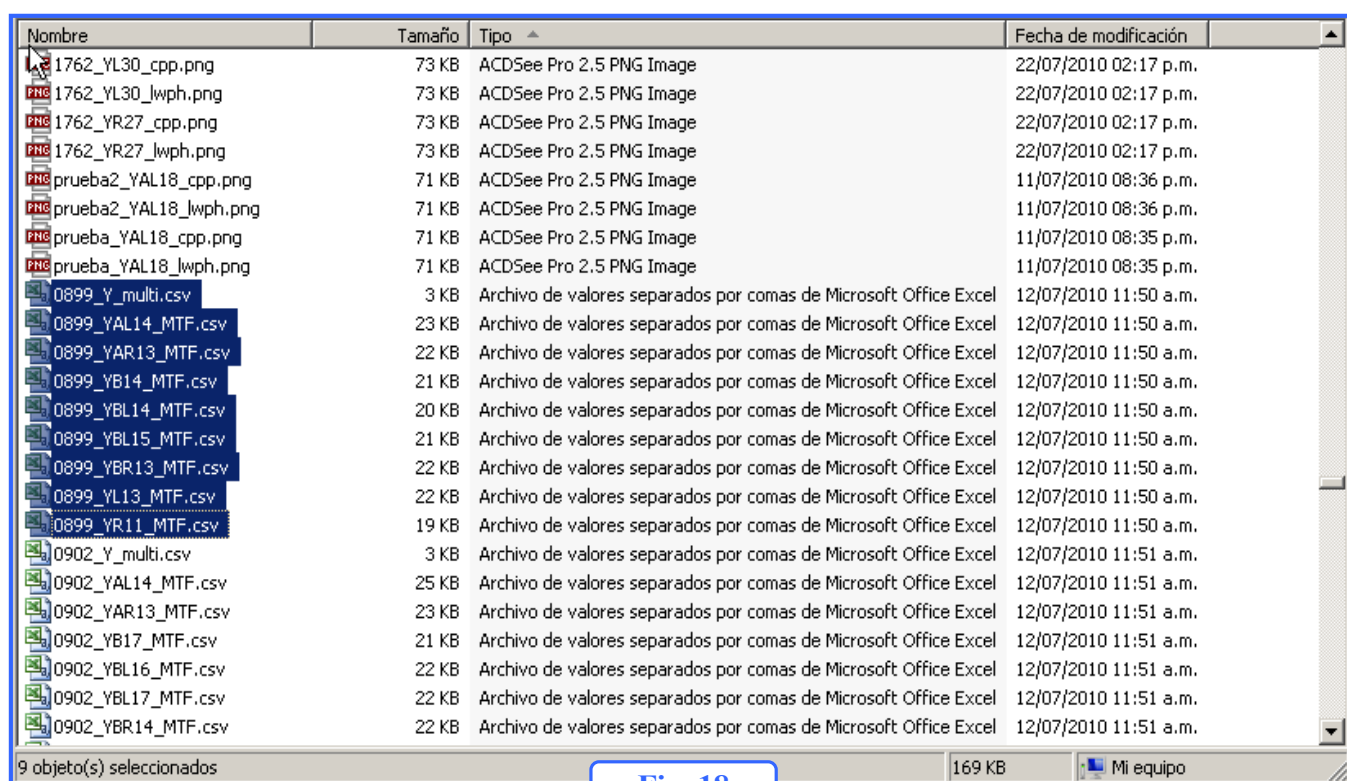

Fig. 18
- 1) We open our “results” folder. Get into “detailed view” mode (“view” menu), you just click on “modified date” top column header and “file type” top column header to arrange our data files to find and open them the easiest way. This sorting out allows us to separate Imatest™’s figures from raw data and arrange them in numerical order (numerical order keeps same numeration as our DSLR picture #). Then we scroll down till we reach data files (*.csv files), and we select all those files that belong to the same image (in our sample, all files starting with “0899”, see Fig. 18). Then we open them by hitting ENTER keyboard key once. Microsoft Excel opens them.